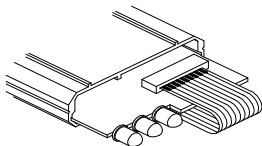

FIG 5.0
- ☐ Carefully insert the pcb cable of the keyboard into the connector. Pay attention to the position of the pcb (fig. 5.0).